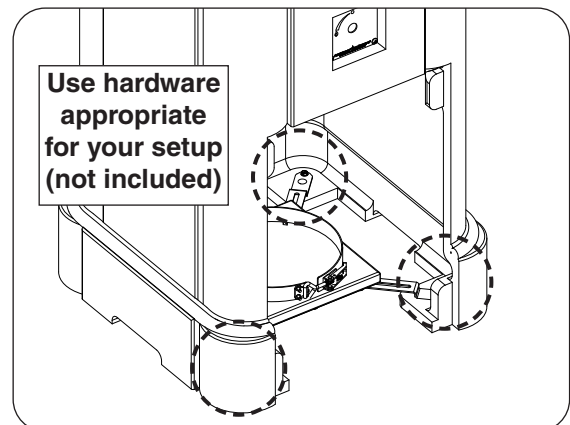

Fig. 18-3 Mount pedestal base to floor
3. Using appropriate mounting hardware for the floor material/construction, secure the base into the floor. The interior of the base has four  $\frac{1}{2}$ " holes that will allow for the base to be fastened to the floor. See Fig. 18-3.